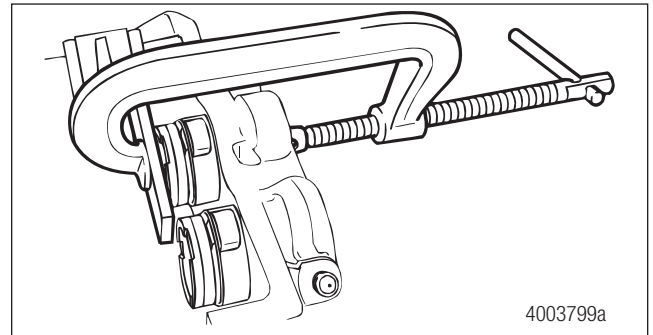

Figure 6.3
9. Press the pistons into the bores one at a time. Use a block and c-clamp to press the piston into the housing until lightly seated. Repeat this procedure for the other pistons. Figure 6.3.